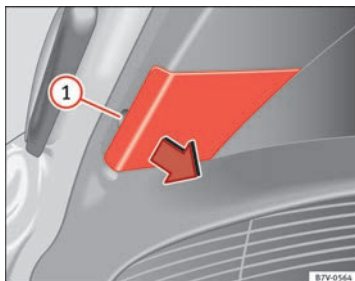

Fig. 211 On the boot lid:
3. Extract the cover carefully using the flat part of the screwdriver as a lever (⇒ fig. 200) on the indent ⇒ fig. 211 ①.